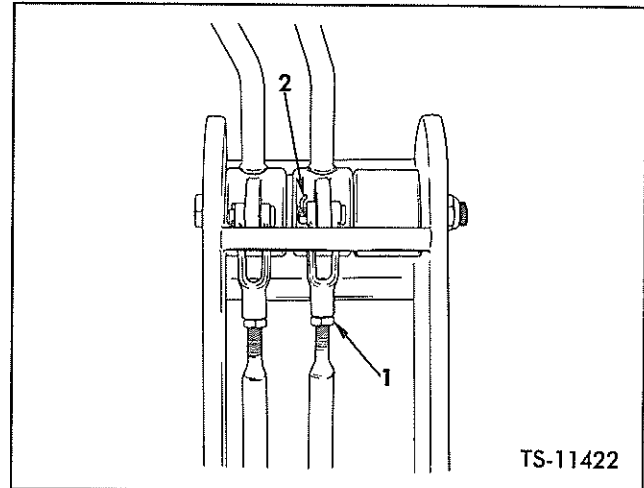

Fig. 28. Adjust Boom and Bucket Control Levers
With engine shut down, and bucket on the ground, place levers in HOLD (neutral) position. The adjustment can be made as follows: See Figure 28.
1. Loosen locknut (Item 1 Figure 28) on control rod.
2. Remove cotter and clevis pin (Item 2 Figure 28).